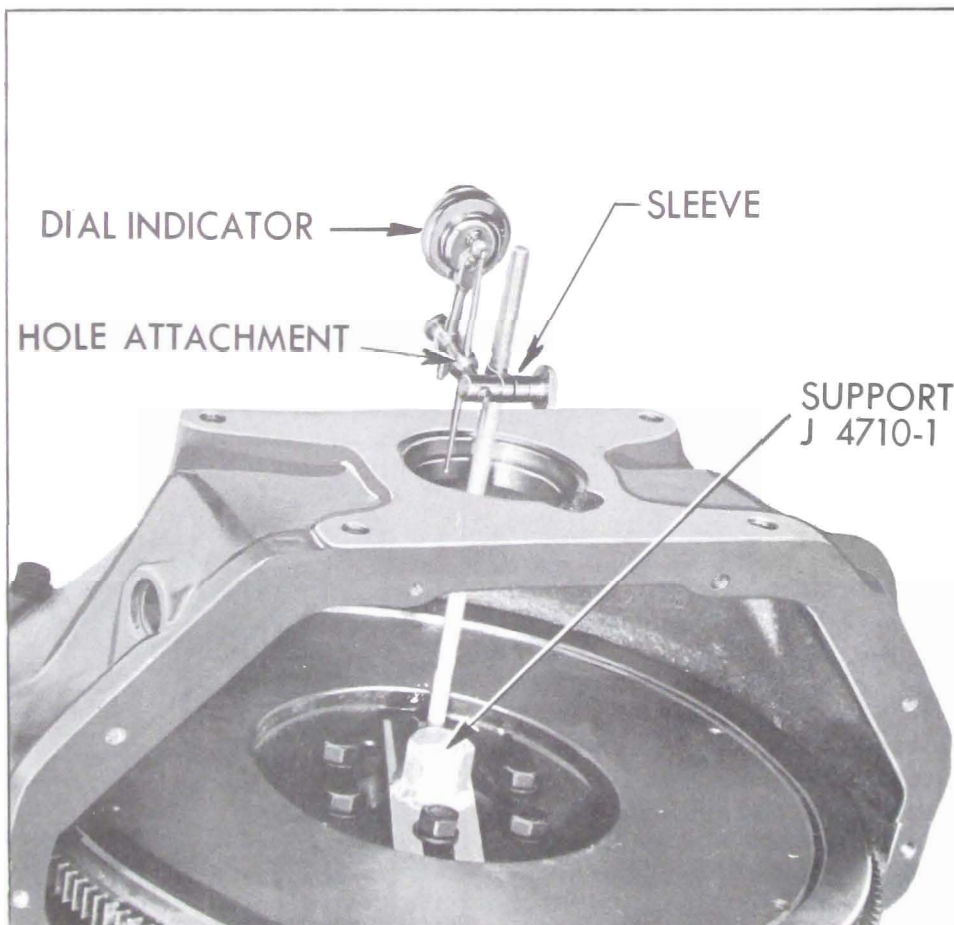

Figure 4-13—Checking Alignment of Housing at Pilot Hole
4. Install dial indicator as shown in Figure 4-13, and check run-out at pilot hole in housing.